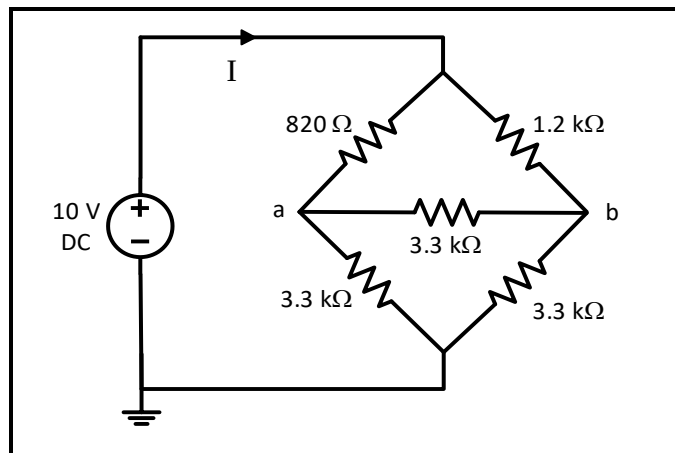

Figure 4.8
1. For the circuit of Figure 4.8 calculate the equivalent Y for the Δ formed by the three $3.3k\Omega$ resistors, draw the resulting circuit.
2. Simulate the circuit of Figure 4.8 using PSPICE, find the value of the current I, and calculate voltage V_{ab} from simulation results.
- Connect the circuit of Figure 4.8.